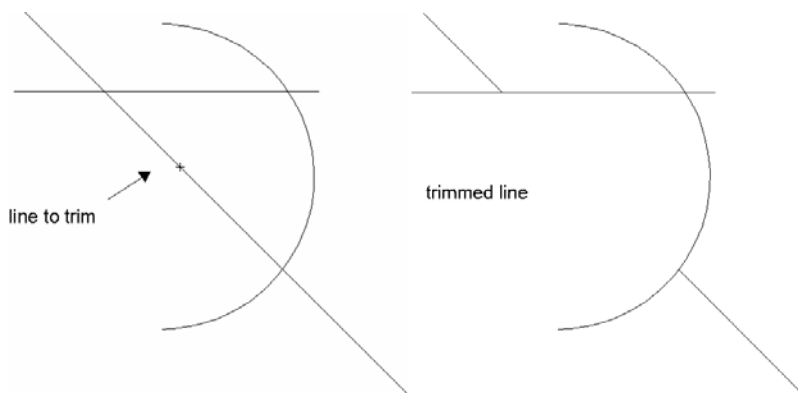

Figure 12.5: Selecting the line segment you want trimmed (removed)
- Click on the line or arc segment that you want trimmed (removed). DataCAD searches for the nearest intersections and trims to the intersection points (see Figure 12.5).